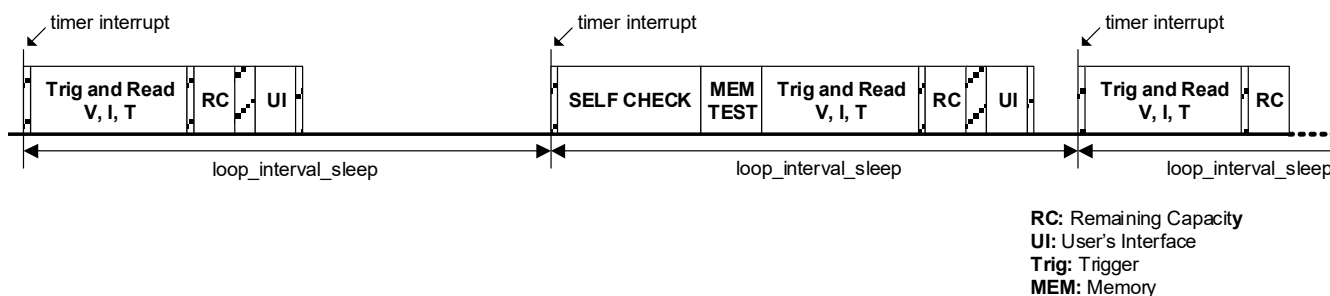

Figure 9. Timeline of the Main Loop in Sleep Mode
- Figure 9 shows the timeline of the main loop.